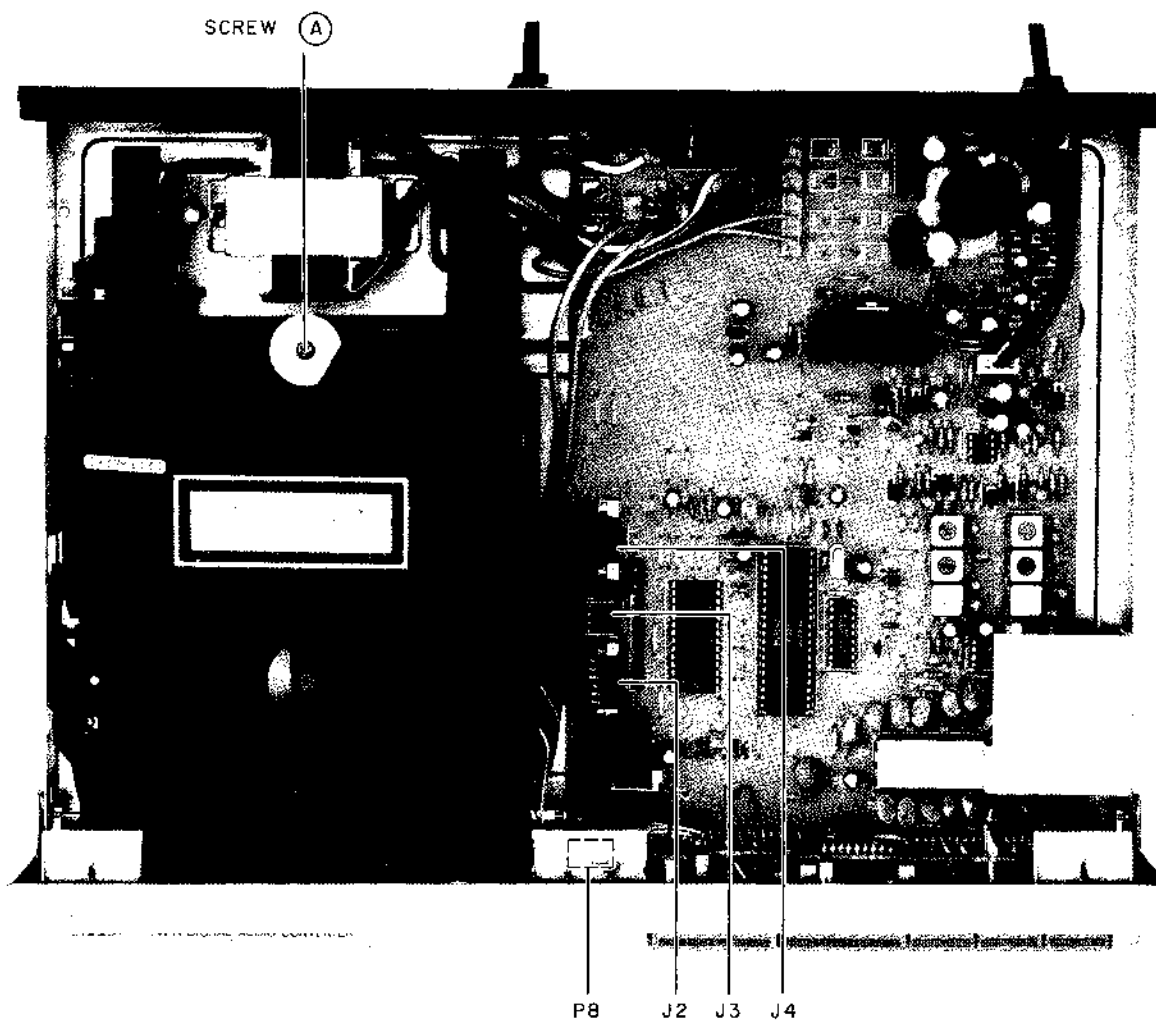

Fig. 6-1
- ① Remove the Front panel.
- ② Remove the Mechanism block fixing screw (A).
- ③ Disconnect the connector J₂, J₃ and J₄ on the Main PC Board, and P8 on the Operation PC Board. (refer to Fig. 6-1)